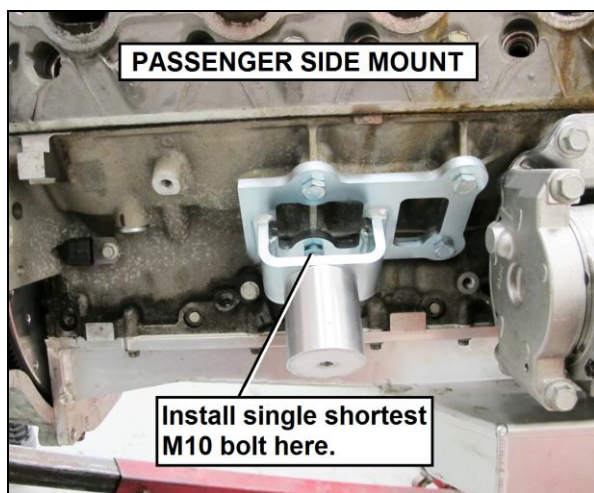

Figure 8
2. Using the supplied M10 bolts, attach the Hooker left and right engine brackets and mounts to the engine, as shown in Figures 8 & 9.